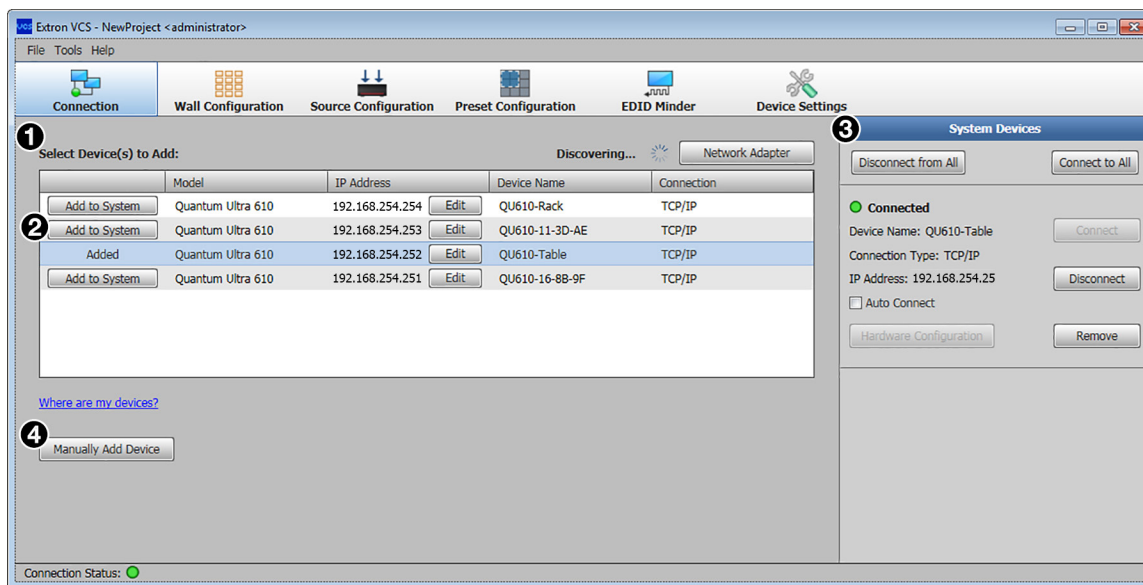

Figure 3. New Project Screen
4. Select the Quantum Ultra / Quantum Ultra II radio button (2) and click the **Create** button (3). VCS searches for Quantum Ultra Series devices on the network. The New Project screen is displayed. The Select Device(s) to Add panel (see figure 3, 1 on the next page) displays all detected devices of the type selected on the Create New Project screen.
5. Locate your Quantum Ultra Series device in the Select Device(s) to Add panel, and click the **Add to System** button at the left of the device name. If a project already exists on the selected device, a prompt opens, asking if you want to apply your new project to the device (deleting the previous project). Click **OK** to continue creating the project (or **Cancel** to stop the procedure). Connection information is displayed in the System Devices panel. If the computer is successfully connected to the device, the word **Connected** is displayed, preceded by a green dot, in the System Devices panel (see figure 3, ②).
1. Click the **Manually Add Device** button (see figure 3, ④). The Manually Add Device window opens (shown at right).
2. In the **IP Address** field, enter the address of the Quantum Ultra Series device to be connected and select the **Pull from Hardware** radio button (see ① in the image at right).
- Click **Add**. The connection information for the device is displayed in the System Devices panel (see figure 3, ② on the previous page). A unit added by this method is **not** displayed in the Select Device(s) to Add panel.